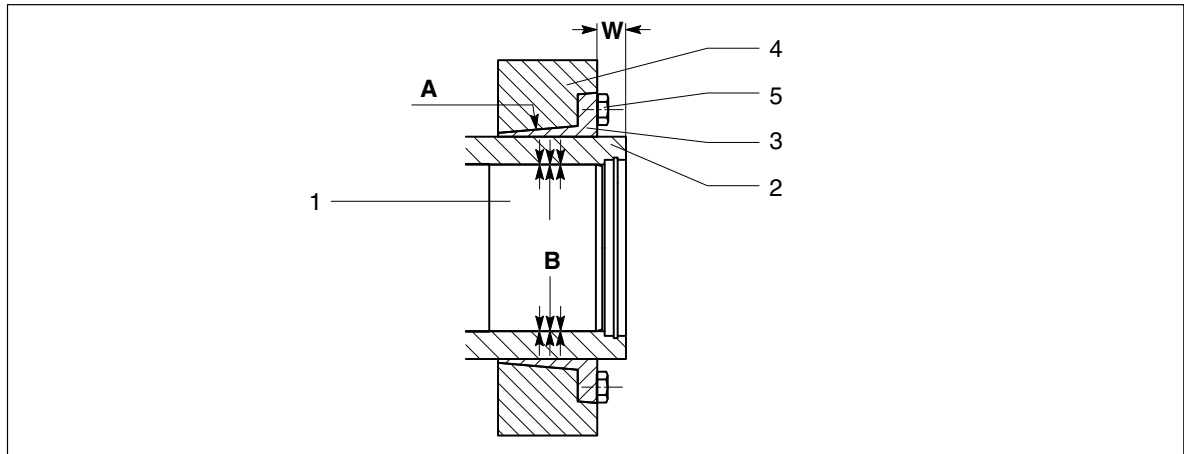

Fig. 53: Fitting the shrink disk
- The conical surfaces of the inner and outer rings (3 and 4, see figure 53) must be free of grease and oil.
- A thin layer of lubricant must be applied evenly to the conical surfaces of the inner and outer rings (3 and 4, see figure 53).
- Provide the tensioning bolts (5, see figure 53) on the contact surface and on the thread with lubricant.